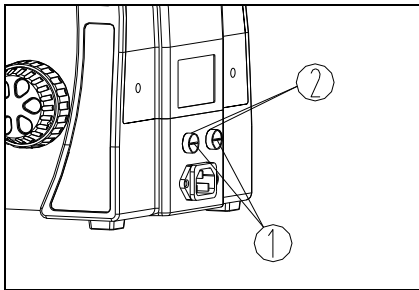

Fig. 22
Turn the main switch to "0" (OFF) before replacing the fuse. Pull out the power cord. Then screw off the fuse group ① from the fuse base ② with a "-" type screwdriver. Install a new fuse and screw it on the fuse base (see Fig. 22).